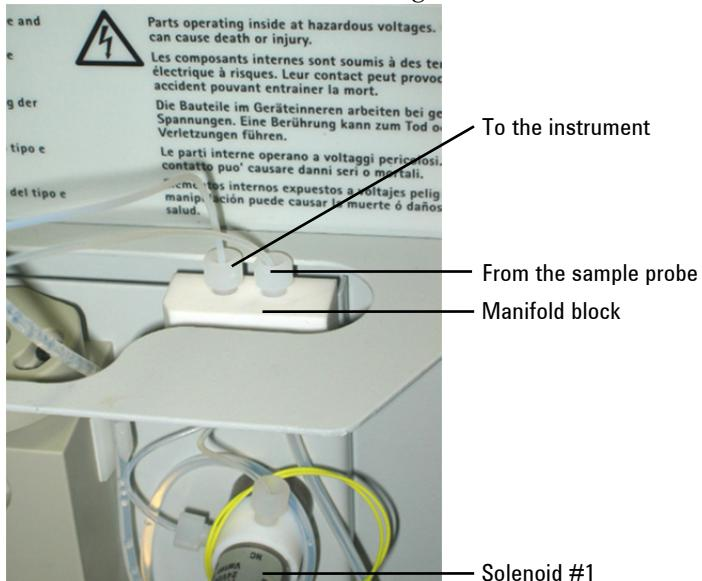

Figure 22. Connections to the sample probe and main instrument.
- 1 Ensure that the tubing from the sample probe and main instrument are as shown in Figure 22.